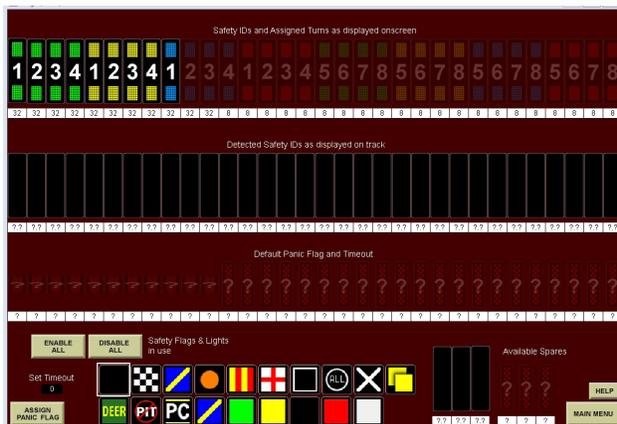

Figure 8 - Config IDs for IP network
Up to 32 safety lights can be enabled for IP network configurations and up to 16 safety lights can be enabled for wireless configurations and up to 3 spares safety lights can be made available to be swapped into service or added to the already enabled safety lights as shown in Figures 8 and 9. When this screen is displayed, the program polls the track for all active IDs and spare IDs. All active IDs on track display their ID code as one of four colors (red, green, blue, or yellow) and a number of illuminated segments (1, 2, 3, etc).
**TIMEOUTS and PANIC FLAGS** - When an DSF/TSL responds, its on-track ID is loaded below the corresponding onscreen ID as well as its Revision level, configured Timeout parameter and configured Panic Flag as shown in Figures 8 and 9. A Panic Flag will be displayed on DSF/TSL if there is a complete breakdown in communications with the tower. This is a safety backup function to continue to insure the correct flag is displayed by each safety light on the track.